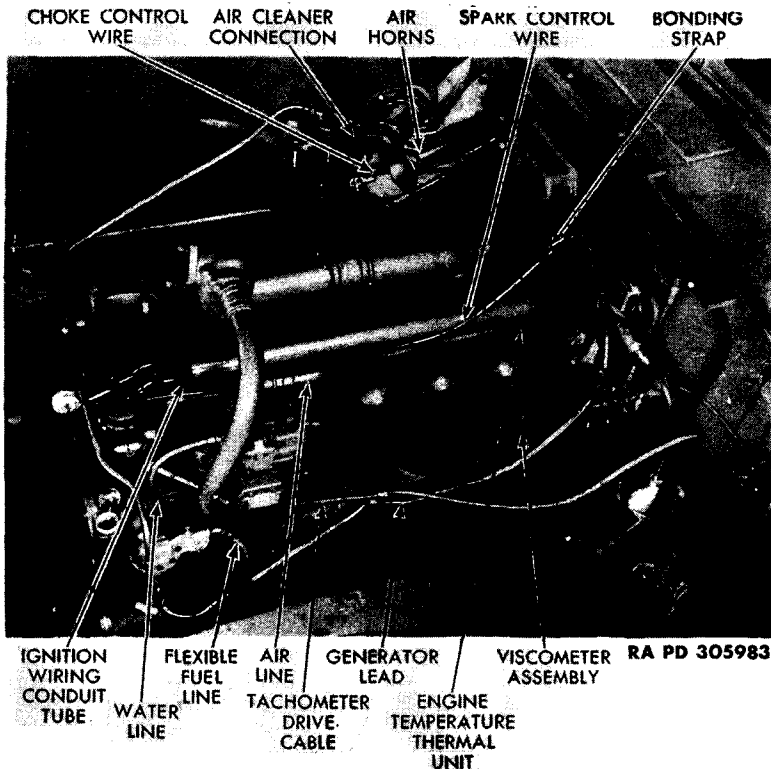

Figure 40—Instrument Controls and Lines on Engine
p. Install Engine End of Instrument Lines (fig. 40). Place oil pressure gage (large tube) line fitting on front of two fittings at lower rear left side of crankcase, and tighten coupling nut. Place oil viscosity gage (small tube) fitting on rear of these two fittings, connect and tighten coupling nut. Insert engine temperature gage thermal unit into fitting on left rear of cylinder head. Connect and tighten coupling on this unit. Insert tachometer drive cable fitting into distributor drive housing, and connect and tighten coupling nut. Fasten cable supporting clip to engine block.